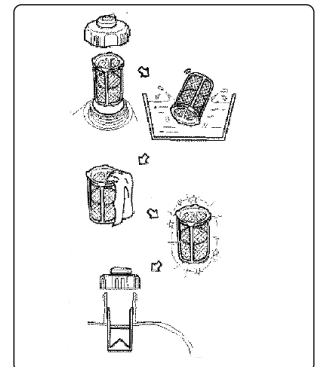

fig.23
7.6.1. Remove the fuel tank cap and filter. fig.23